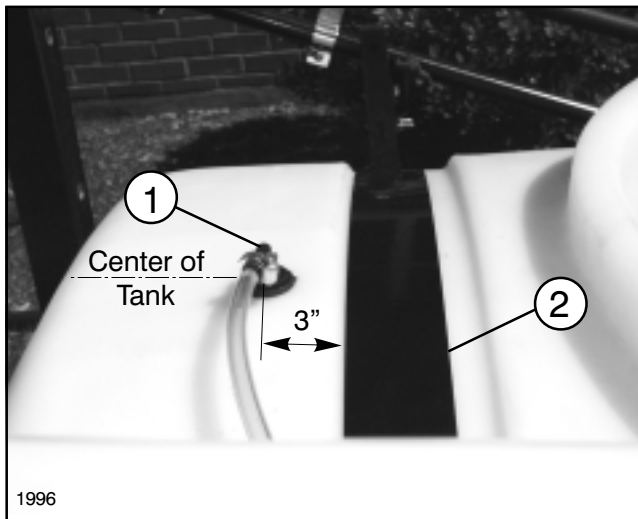

FIG. 3
2. Drill a 3/4" diameter hole through top of tank between the front of Tank and Tank Band. Assemble the 90° Elbow and hose washer in hole. Install Nut and tighten on inside of tank. See FIG. 3, page 2.